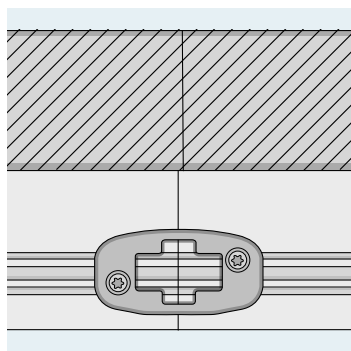

Figure 12: Illustrates how the strike plate secures the threshold on both sides of the joint
18. Remove the plug at the bottom of the master door using a socket screwdriver (figure 12).
13. Fasten the striking plate by screwing in the two included screws. There is a groove in the aluminium threshold where the screws should be placed (figure 12).